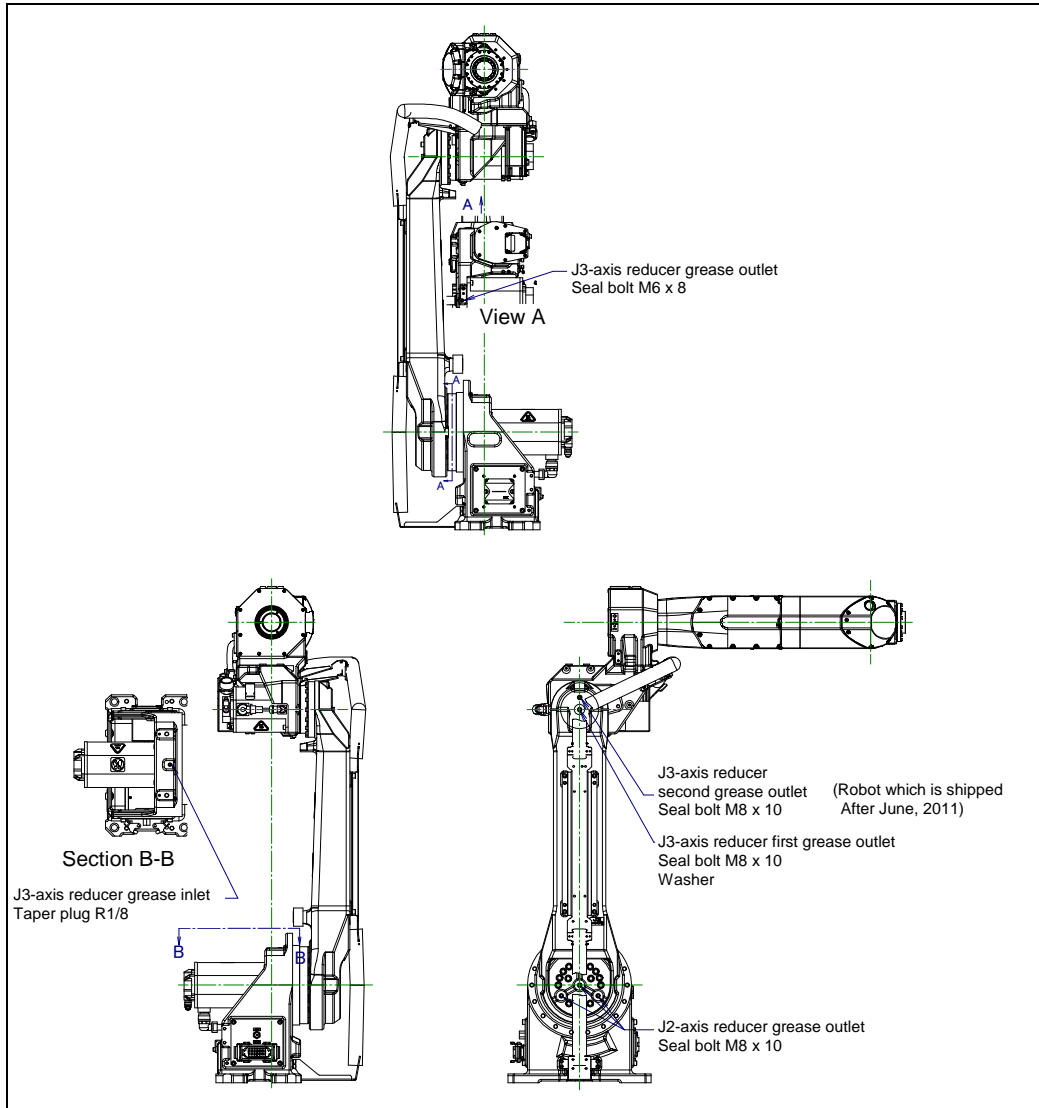

Fig. 7.3.2.1 Greasing points of J2/J3-axis reducer
- 3 Remove the seal bolt or taper plug from grease outlet. (Fig.7.3.2.1)